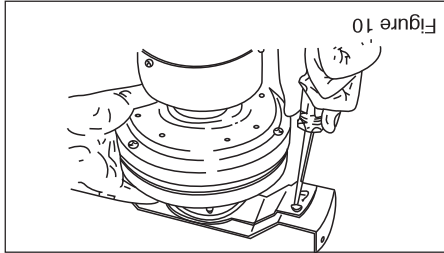

Figure 10
Step 2 Match the three holes at two ends of the supporting bar with three screws of the hanger. Secure the fan assembly onto the supporting bar using screws and washers (Figure 10).